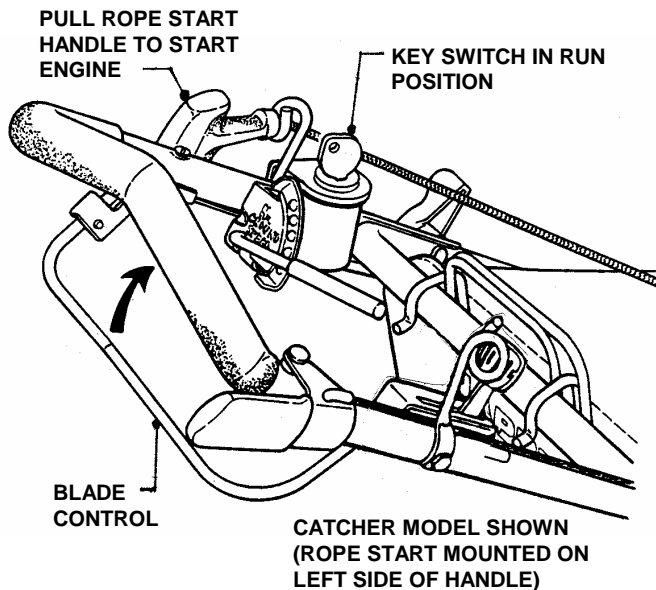

FIGURE 2.4
1. Move engine speed control to the "Fast" (Rabbit) position. See Figure 2.4.
4. Pull rope start handle until engine starts. See Figure 2.4.